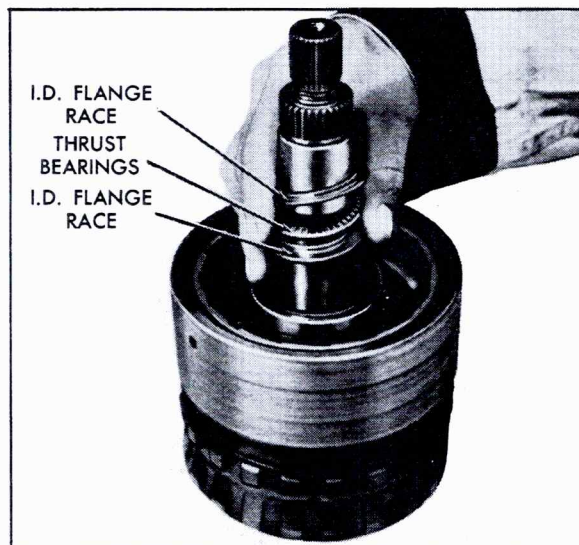

Fig. 7-102 Installing Center Support Races and Thrust Bearing at Sun Gear
15. Lubricate small diameter race with petrolatum and install race on center support with flange facing toward lower end, Fig. 7-102.